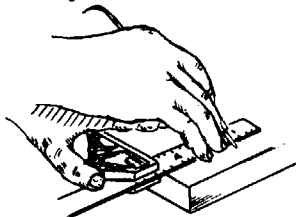

FIG. 7 USING COMBINATION SQUARE FOR LAYING OUT LINES
3. Place the head of the square against the side of the work to be scribed, and scribe lines from either side or the end of the square according to the requirements of the job at hand. (Fig.7).